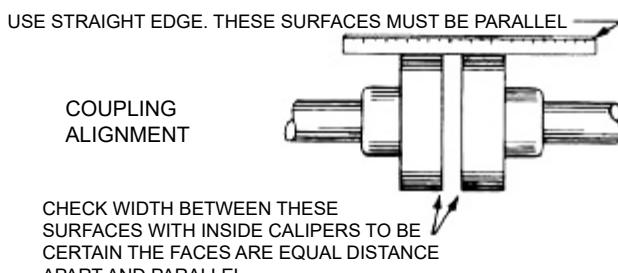

FIGURE 6
- If the unit has a flexible coupling, remove any coupling guards or covers and check alignment of the coupling halves. A straight edge (piece of key stock will work) across the coupling must rest evenly on both rims at the top, bottom and sides. See **Figure 6**.